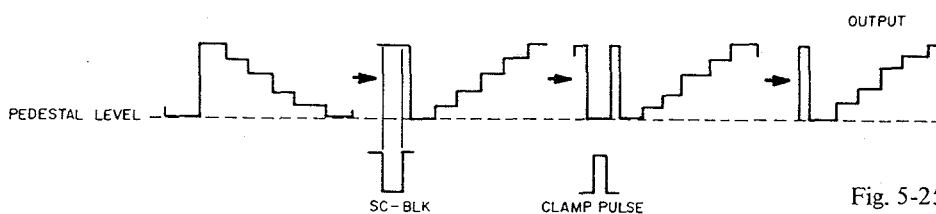

Fig. 5-25
Figure 5-25 shows the block diagram of the AGC circuit. If pin ③ and pin ⑫ of IC5 AN6022 were connected together directly, a standard output would be made available at “AGC Full Gain”. In view of this a +6 dB amplifier (TR14 and TR15) is connected between these pins so that the AGC amplifier operates at -6 dB during NOR-